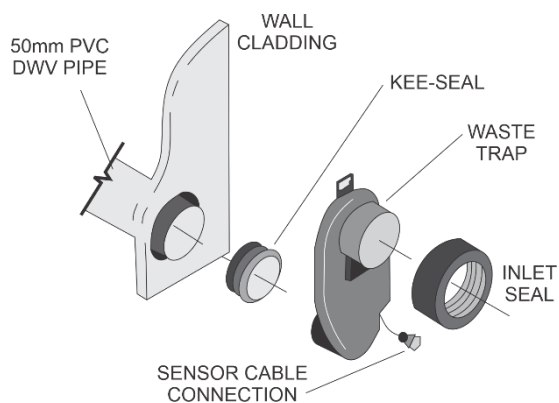

Fig. 1.25: Cutting of 50 mm DWV flush
4. Before fitting waste trap, cut 50mm PVC DWV (Poly Vinyl Chloride Drain-Waste-Vent) flush with finished wall. (Refer Fig. 1.25)